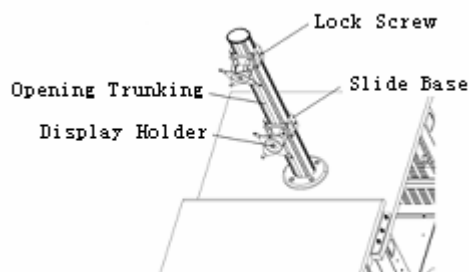

Figure 5-6 Opening trunking
6. Wires of display and the display auxiliary operation desk button box are connected into the operation desk along the opening trunking (see Figure 5-6) on the display holder.